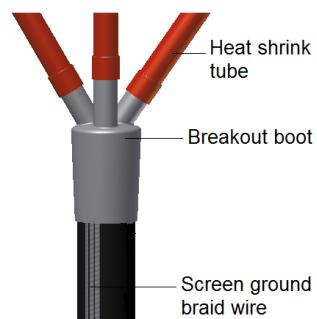

Figure 4
1. As figure 4 shown, slide heat shrink breakout boot over the cable as far as it will go, then heat it from its middle until it shrinks on the cable.